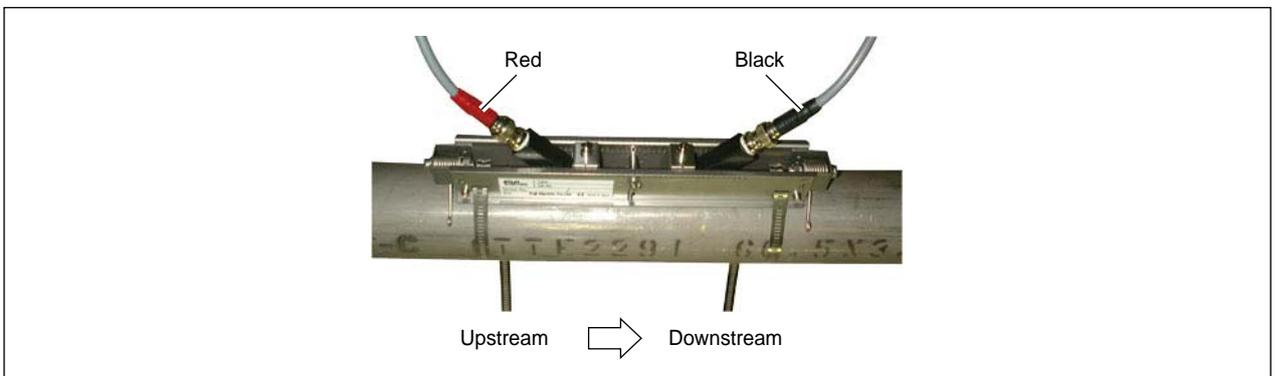

Fig. 3-13
- (4) Engage the signal line with BNC connectors of the sensor units. At this time, do not mistake the upstream and downstream sides for each other. Engage the red BNC connector upstream, and the black BNC connector downstream (see Fig. 3-13).